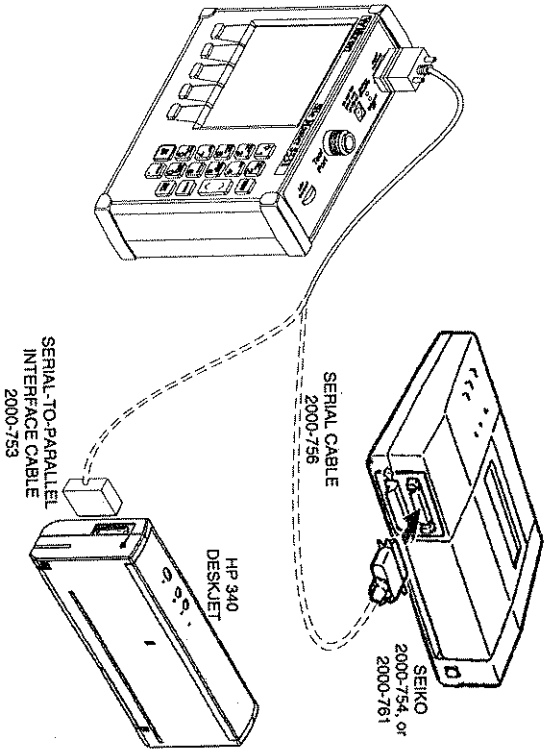

Figure 2-11. Printer Setup
Printing is accomplished with either of two printers: the Seiko DPU-411 thermal printer or the Hewlett Packard Deskjet 340 ink jet printer. Figure 2-11 shows a setup diagram for these two printers.
- Step 1. Connect the printer as shown in Figure 2-11.